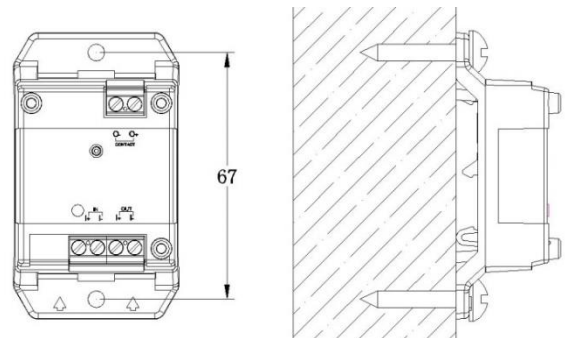

Fig. 3
- 3) The isolator can also be wall mounted by 4 mounting screws as shown in Fig. 3. Mounting space is 67mm.